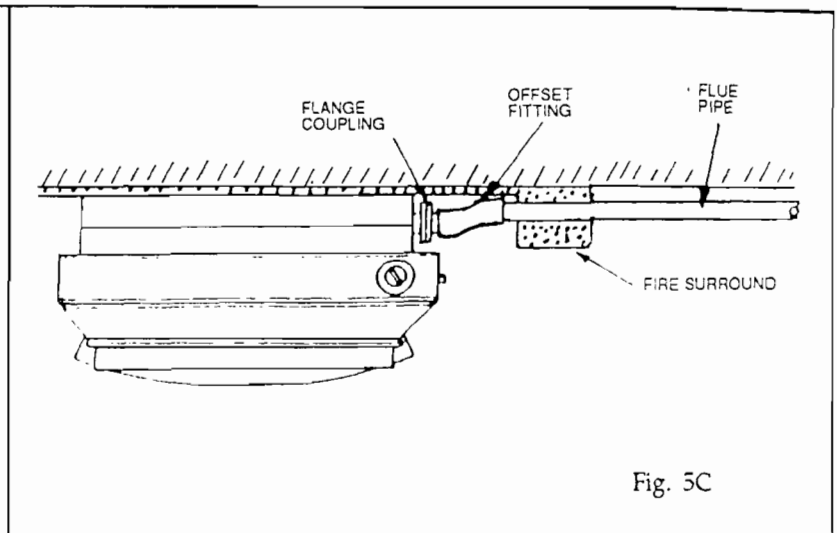

Fig. 5C
- 3.1 Fit one of the flange connectors to the chosen flue exit on the fire. Fit the gasket and the other flange connector to this exit and secure with the M4 screws and nuts provided. Fit the offset fitting to set back the flue to the wall (Fig. 5C). When fitting in a deep fire surround, it may be advisable to bore a hole on the side of the surround for the flue pipe to pass through (Fig. 5C).